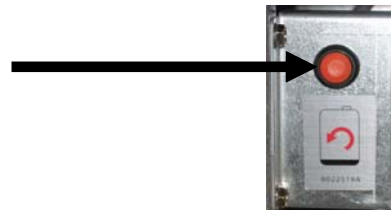

Figure 7
6. Press and hold the orange JIB reset switch **three (3) seconds** to reset the top off system. (see Figure 7).